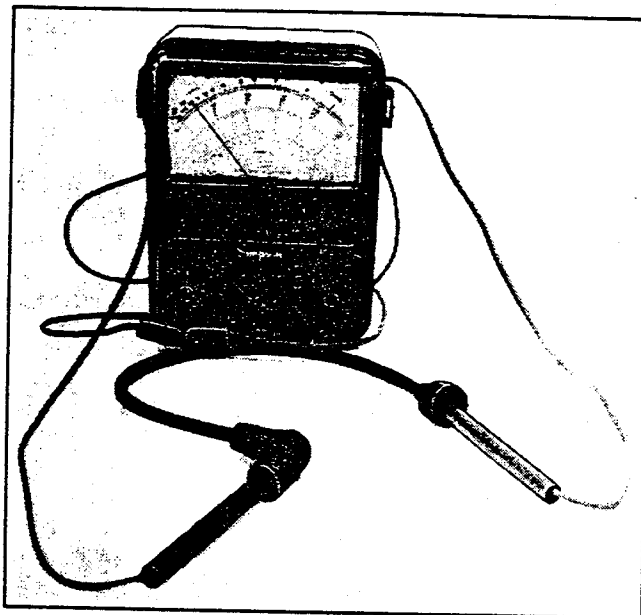

Figure 8-19. Checking Cable Resistance
1. See Figure 8-19. Check cable resistance. Set ohm-